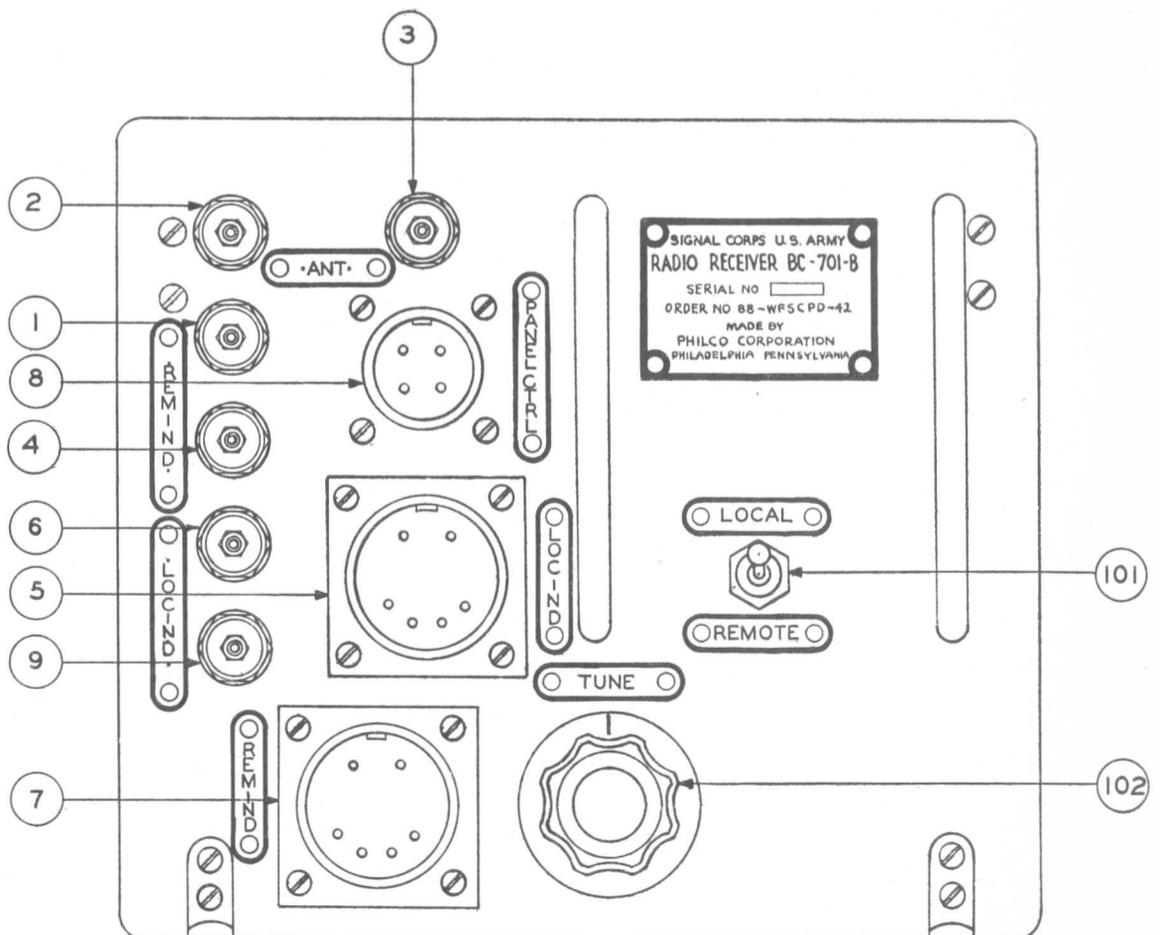

FIGURE 2—RECEIVER BC-701-B, FRONT VIEW
If the vertical line which appears on the screen is not in a central position, adjust the top ("HOR SHIFT") control (75) to shift the line to the right or left, and adjust the middle ("VER SHIFT") control (76) to alter the up and down position to coincide with the calibrated scale. When two Indicators are used in an installation, both will be in operation and will have to be adjusted separately. However, the "GAIN" can only be controlled from one Indicator at a time, and this is dependent upon the position of "LOCAL" "REMOTE" switch (101) (See Fig. 2).